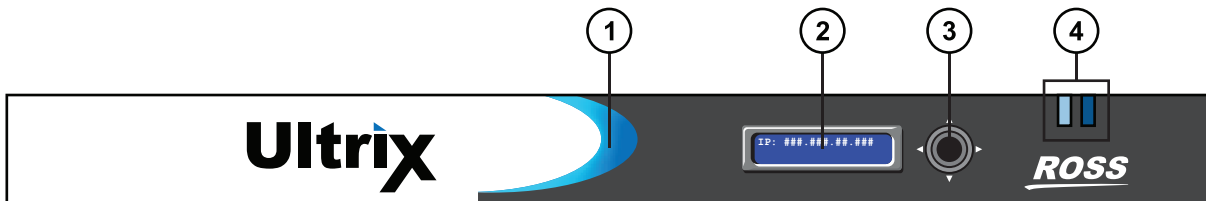

Figure 3 Front Panel — ULTRIX-NS-FR1
- ★ The ULTRIX-NS-FR1 and ULTRIX-NS-FR2 have updated frame components to allow the support of more advanced IO modules such as ULTRIX-IPX-IO. The ULTRIX-NS-FR1 and ULTRIX-NS-FR2 may be identified by the blue dot above the i on the front panel Ultrix logo (**Figure 3**).
The Ultrix router is designed to be operated with the door closed to ensure adequate cooling via the fans. The front panel includes the same features regardless of the router model. **Figure 3** shows an ULTRIX-NS-FR1.
- ★ The ULTRIX-NS-FR1 and ULTRIX-NS-FR2 routers can be identified by the Ultrix logo on the front door with an "i" with a blue dot. Refer to **Figure 3** for an example of the ULTRIX-NS-FR1 front door.